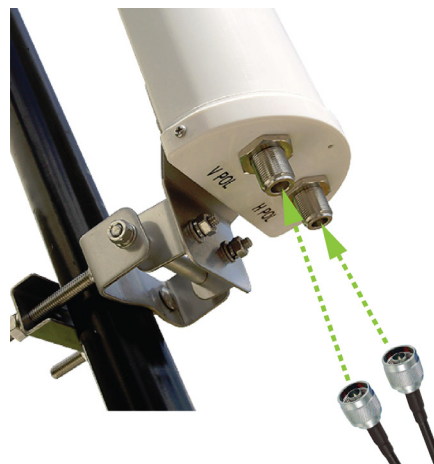

Figure 29. Installing Antennas to the Access Point
3. Connect cables to the connectors on the back panel of the antenna as shown in Figure 29.